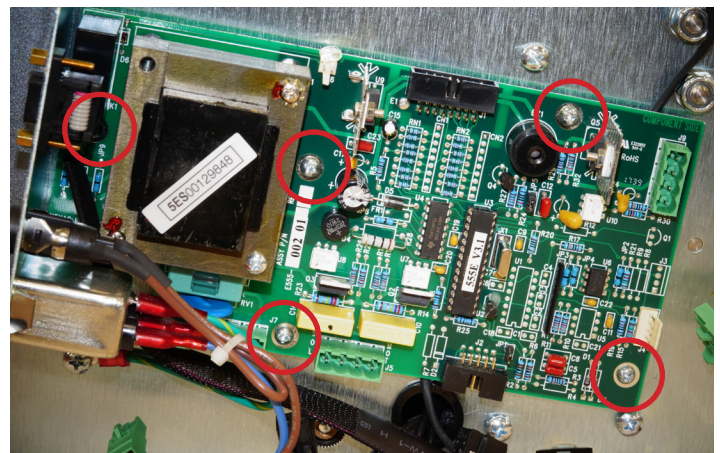

Figure 17-2
6. Remove 5 Philips screws holding the board to the frame (Figure 17-2)